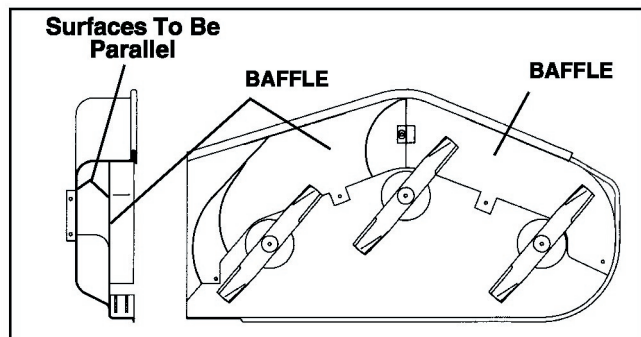

Figure 2
3. Join the right and left baffle plates together. Do not tighten the bolt. Place the baffle plates in the mower deck. Clamp in place insuring that they are parallel with the deck. (See Figure 2.)
286307700_Fig2